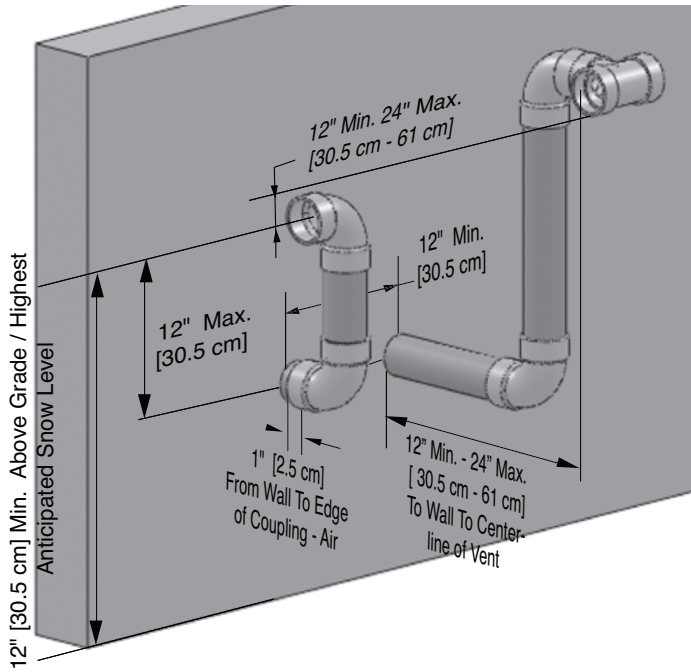
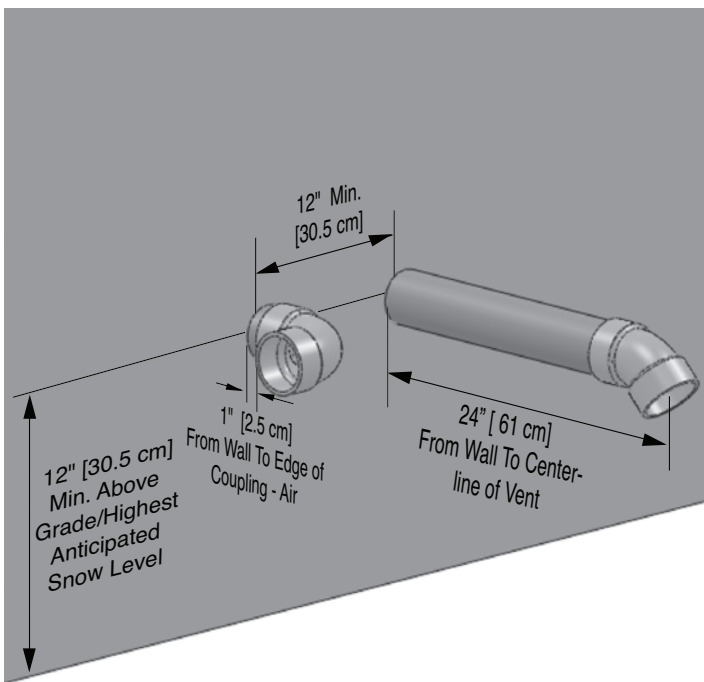
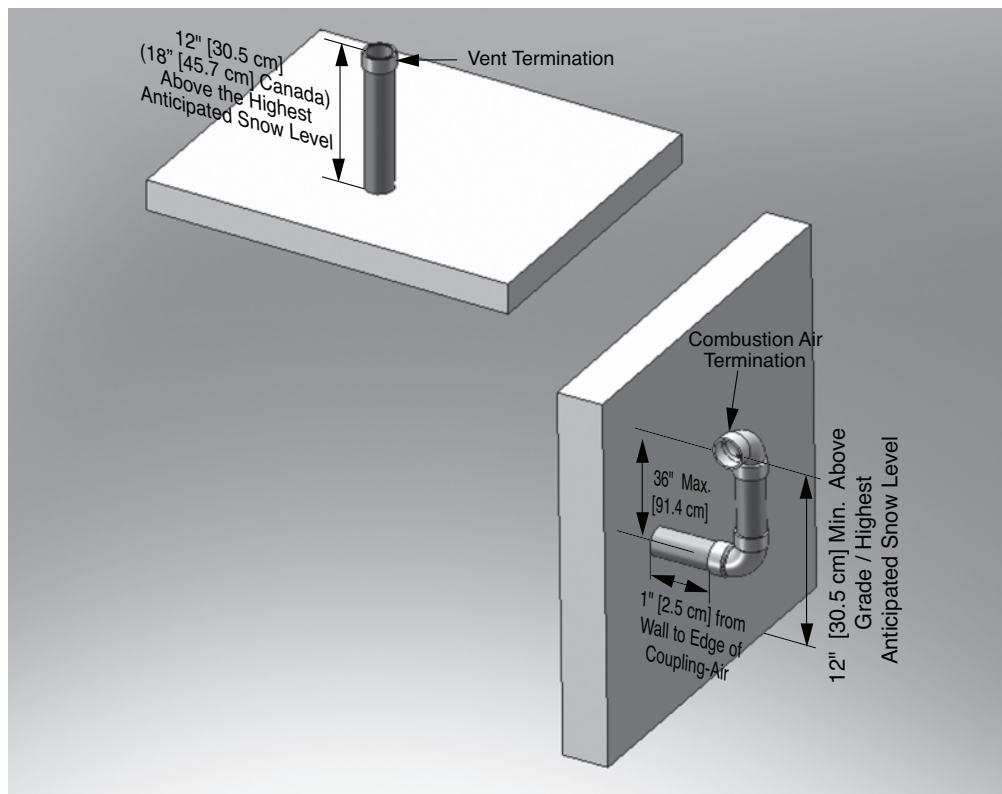

Fig. 8: Direct Vent - Sidewall Snorkel Termination of Vent and Combustion Air Piping with Tee Vent Termination
Fig. 10: Direct Vent - Sidewall Termination of Vent and Combustion Air Piping with Tee Vent Termination
Fig. 16: Direct Vent - Vertical Termination of Vent and Sidewall Termination of Combustion Air of Multiple Appliances
To reduce the potential of the combustion air inlet freezing up, it is recommended to separate the vent and air terminations in both a horizontal and vertical plain as shown in Figures 8 and 9 on page 13.
2. The combustion air pipe must terminate using a 90° elbow directed away from the vent termination. The combustion air termination must be installed 12" [30.5 cm] minimum above grade/highest anticipated snow level and as shown in Figs. 8 through 11 on page 13.
The combustion air termination can be placed on either side of the vent termination. The vent and combustion air terminations must be a minimum 12" [30.5 cm] apart. The vent and combustion air terminations are not required to be in the same pressure zone. The combustion air termination must be directed away from the vent. See Figs. 8 through 11 on page 13.
- Using a tee as shown in Figs. 8 or 11 on page 13.
Do not extend the vent pipe outside the sidewall beyond the dimensions shown in Figs. 8 through 11 on page 13. Extended exposure of the vent could cause condensate to freeze and block the vent pipe.
4. The combustion air and vent pipe center lines must be a minimum of 12" [30.5 cm] apart as shown in Figs. 8 through 11 on page 13.
- g. A minimum of 12" [30.5 cm] or a maximum of 24" [61 cm] beyond the exterior wall when snorkled (see Figs. 8 & 9 on page 13) or 24" [61 cm] when vent and air terminate on the same horizontal plane (see Figs. 10 and 11 on page 13).
7. The edge of the combustion air termination coupling must extend 1" [2.5 cm] beyond the exterior wall as shown in Figs. 8 through 11 on page 13.
3. Locate the vent and combustion air pipe penetrations to provide clearances as described in Figs. 8 through 11 on page 13.
2. The combustion air pipe must terminate using a 90° elbow as shown in Figs. 8 through 11 on page 13.
- Using a tee as shown in Figs. 8 and 11 on page 13.
Do not extend the vent pipe outside the sidewall beyond the dimensions shown in Figs. 8 through 11 on page 13. Extended exposure of the vent pipe could cause condensate to freeze and block the vent pipe.
2. The combustion air piping must terminate with a 90° elbow. Fig. 16 shows a snorkel termination option. The combustion air pipe can also terminate using a 90° elbow directed to the left or right as shown in Fig. 10 on page 13. The termination must be installed 12" [30.5] minimum above grade/highest anticipated snow level and as shown in Fig. 10 on page 13 or Fig. 16.
2. The combustion air termination must be installed 12" [30.5 cm] minimum above grade/highest anticipated snow level and as shown in Fig. 10 on page 13 or Fig. 16 on page 17.
Do not extend the vent pipe above the roof beyond the dimension shown in Fig. 16 on page 17. Extended exposure of the vent pipe could cause condensate to freeze and block the vent pipe.